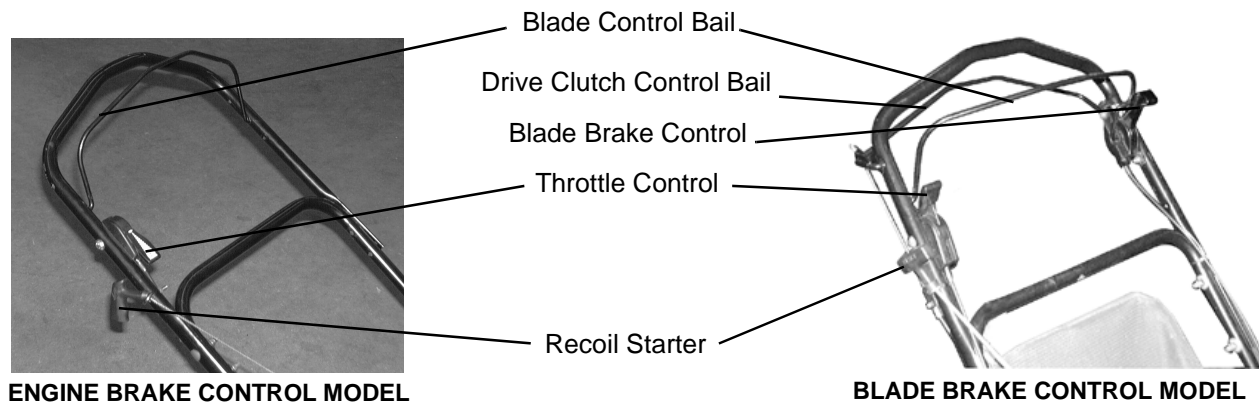

Figure 2
**For units equipped with Engine Brake Control:** The blade control bail is located on the handle of the mower. See Figure 2. The blade control bail must be depressed in order to start and operate the unit. Release the blade control bail to stop the engine and blade.
**For units equipped with Blade Brake Control:** Squeeze the upper bail to the handle, then push the lever forward to engage blade. Figure 2
Squeeze the drive clutch control against the upper handle to engage drive. Release the drive clutch control to slow down and stop. Use the clutch to slow down when negotiating an obstacle or making a turn. **DO NOT SLIP OR "FEATHER" THE CLUTCH.** See Figure 2.
The throttle control is located on the right side of the upper handle. It is used to regulate the engine speed. See Figure 2.
The recoil starter handle is attached to the upper handle. See Figure 2. Stand behind the unit in the operating position to start the unit.
- For engine brake control, release the blade control handle to stop engine and blade. (See Figure 2).
- For blade brake control, release bail to stop blade. Move throttle control lever all the way to the rear to stop the engine. (See Figure 2).